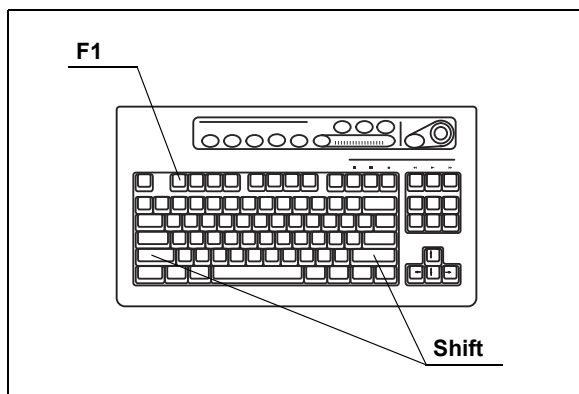
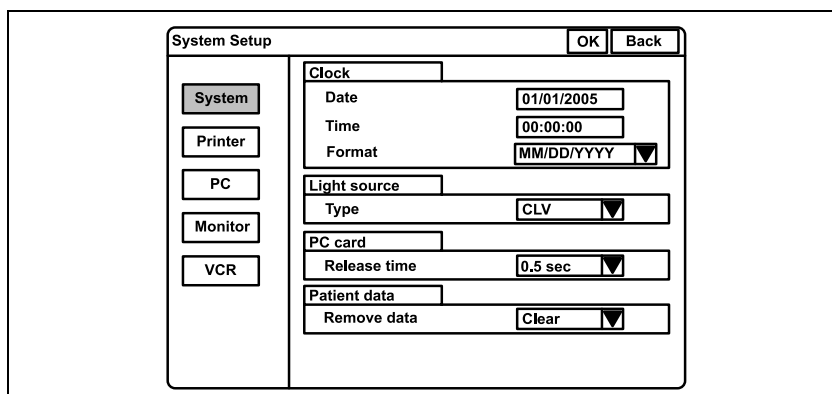

Figure 9.2
Figure 9.3
1. Press the “Shift” and “F1” keys together (see Figure 9.2). The “System setup” menu appears on the monitor (see Figure 9.3).